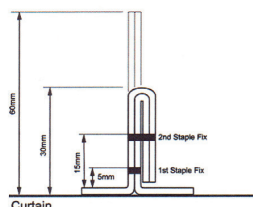

Figure 2
3. Loose fix the top edges of the curtain at 250 mm centres, to the underside of the soffit. Using 65 x 6 mm diameter "sleeve" anchor bolts and 38 mm diameter washers. N.B. All overlaps running vertically, to be 60 mm as shown in figure 2.
4. Fix vertical seams at 60 mm centres, 5 mm away from the face of the curtain and staple the vertical seams using zinc coated steel plates, 11.5 mm x 6 mm x 0.5 mm, see Figure 2.
6. Fold over all 60 mm overlaps in half to form a double overlap and staple together as before, at 60 mm centres, 15 mm away from the face of the curtain and at a 30 mm stagger to the first fix positions, as shown in Figure 2.